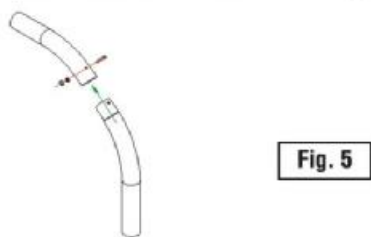

Fig. 5
2. Inspect mounting arm; if split-arm is provided, use supplied nut and bolt to assemble arm as shown in Fig. 5.